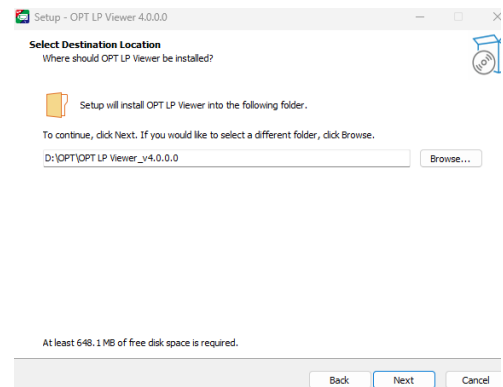

Figure 1.4.4 Preparation for Installation Interface
- 5 Click Next to proceed to the installation preparation screen. Click Install to continue installing the software, as shown in Figure 1.4.4.